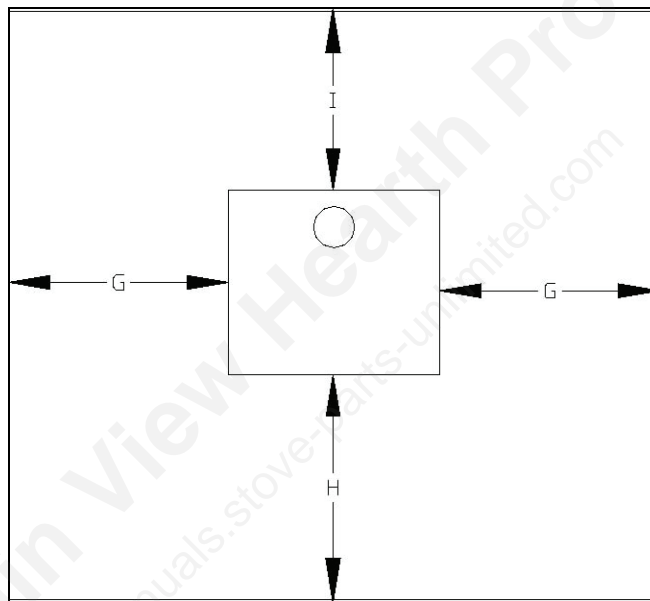

FIGURE 4: FLOOR PROTECTOR DIMENSIONS
1. All Country Flame freestanding catalytic woodstoves require a listed floor protector that is noncombustible. Country Flame catalytic stoves were tested with a listed floor protection that had a thermal conductivity of K = 0.85 BTU-inch per hour per square foot per degree Fahrenheit and that was 3/8" thick (9.5mm) non-asbestos millboard. Refer to FIGURE 4 and TABLE 4 for floor protector information.
TABLE 3: FLOOR PROTECTOR, IN INCHES, REFERS TO FIGURE 4